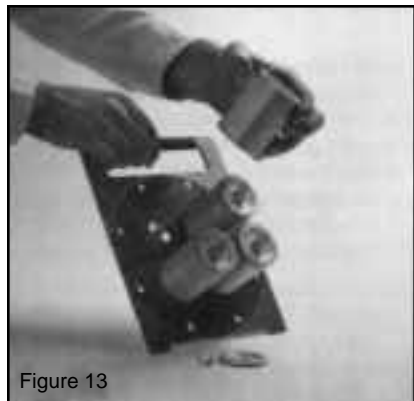

Figure 13
- e) Unscrew the wing nuts and remove the caps holding the outlet filter cartridges in their seats. Remove and discard the used filter cartridges (Figure 13).